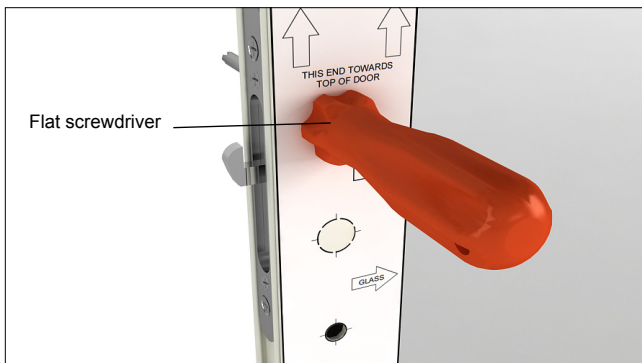

Figure 5
3. To prevent the backer from falling to the bottom of the panel, place a flat screwdriver in the top handle set hole. This screwdriver will remain in place until the lock box is fastened back in place. See figure 5.